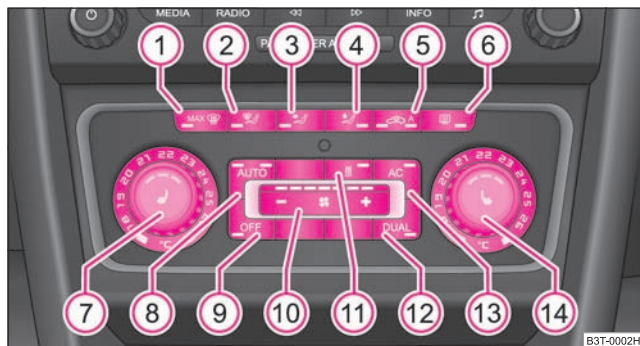

Fig. 113 Climatronic: Control elements
- Press the button **AUTO** ⇒ page 102, fig. 113.
If the windscreen mists up, press the button   ⇒ page 102, fig. 113. After the windscreen has been demisted, press the button . ■
- If the windscreen mists up, press the button   ⇒ page 102, fig. 113. After the windscreen has been demisted, press the button .
- Press the button  ⇒ page 102, fig. 113.